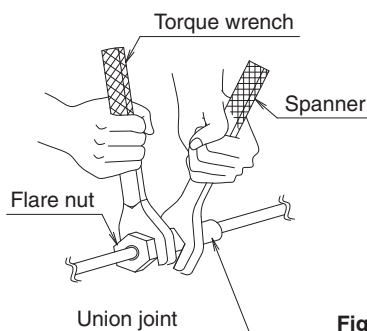

Fig. 21
- When connecting the piping to the air conditioner, make sure to use a spanner and a torque wrench as shown in **Fig. 21**. For the dimension of flared part and the tightening torque, refer to the Table 1.
After all the brazing works are finished, carry out flare connection with the indoor unit. (**Refer to Fig. 21**)